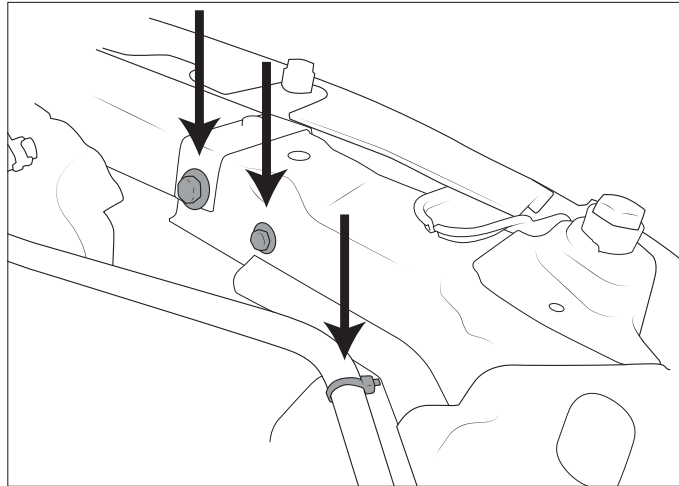

Figure 8
8. Remove 1 M10 bolt on radiator support and SAVE (fig. 8).
9. Remove 1 M6 bolt on radiator support and SAVE (fig. 8).
10. Un-clip radiator overflow hose (fig. 8).